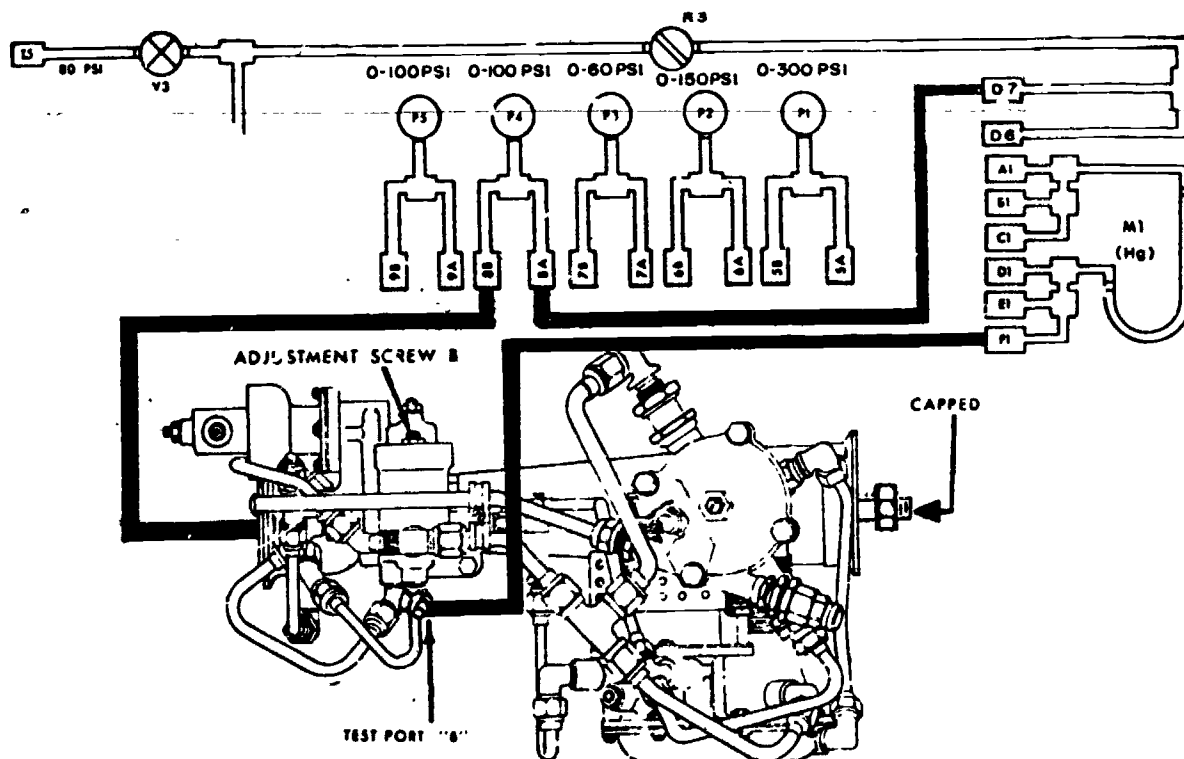

Figure 6.
1. The last adjustment you will make on the valve is the bellows pressure check. It is set to keep a proper flow of air through the valve from the ground up to the operating altitude. Look at figure 6 to find test port B and adjusting screw B. Connect the pneumatic hoses shown by the heavy black lines.